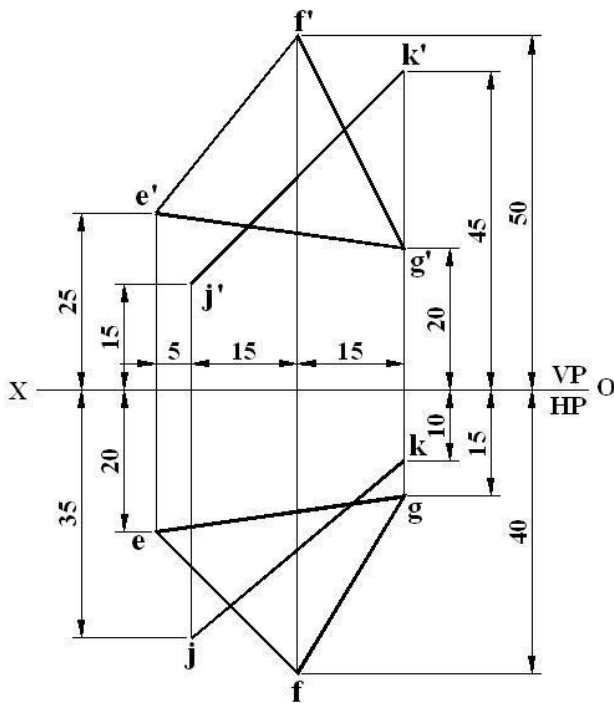

Figure 3.15
15. Orthographic projections of a plane **EFG** and a line **JK** are given in **Figure 3.15**. Draw the front and top views of the piercing point and show the visibility of the line. Also determine the true angle between the line and the plane.